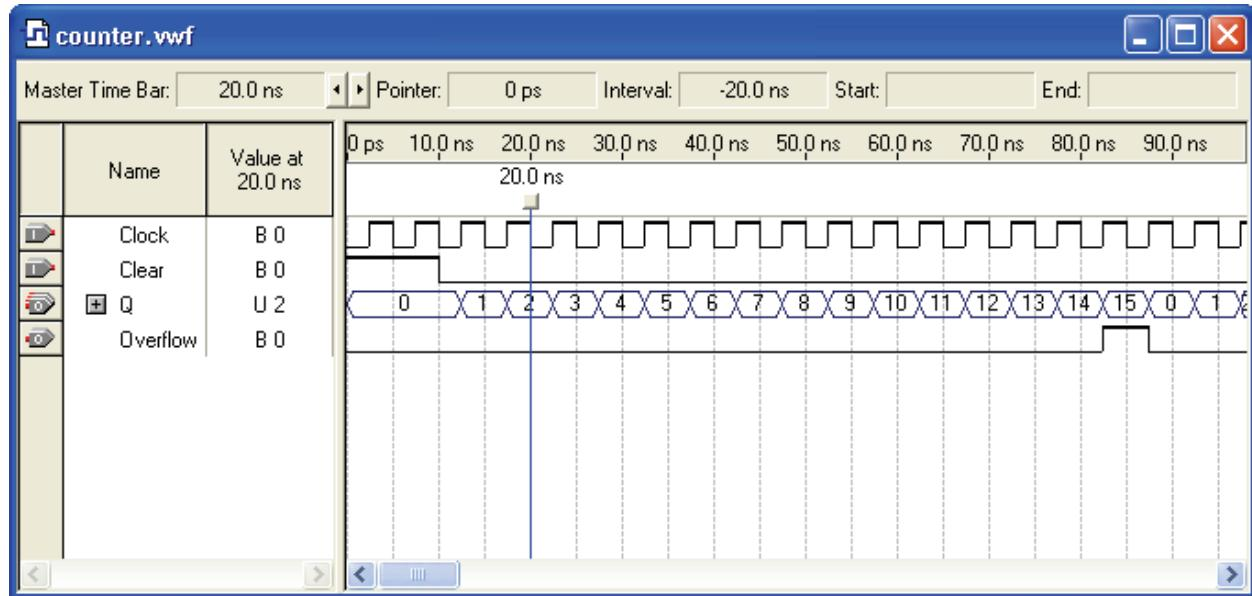

Figure B.11 Resulting waveform after the simulation.
3. The resulting waveform from the simulation is shown in Figure B.11.